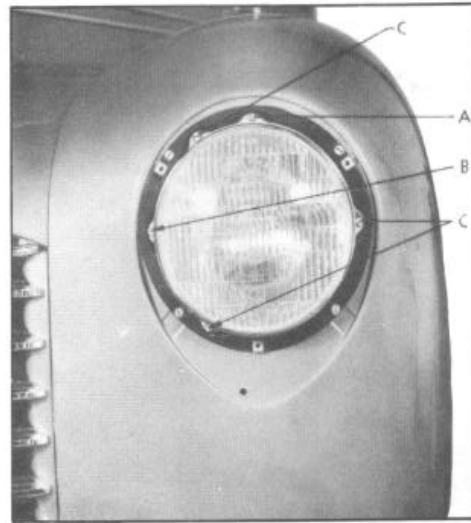
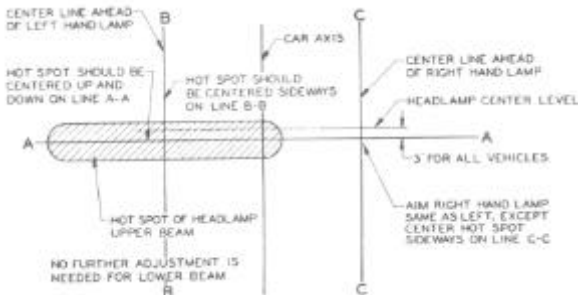

Figure 34--Headlamp Beam Adjustment
Figure 36--Headlamp Adjusting Chart
2. Loosen, but do not remove, the three screws (C), Figure 34, holding the retainer. (Do not disturb the aiming screws A and B at the top and left side of the unit.)
2. Loosen three screws (C), Figure 34, holding the retainer.
2. Draw a horizontal line on this surface at the level of a point 3" below the headlamp center, as shown in Figure 36. This line is 26-3/4" above the floor line. If, however, your state requires a loading allowance draw this horizontal line below the above line by whatever amount that is required in your state.
4. Draw vertical lines (B-B) and (C-C), Figure 36, on the screen to the right and left of the center line at a distance equal to one-half of the center to center distance (28 inches) between the two lamps
7. Independent adjustment of both horizontal and vertical aim is provided in "Sealed Beam" headlamps with the adjustment screw as shown at (A), Figure 34, and the horizontal adjustment screw at (B).
- The light beam is moved to the right or left by tightening or loosening this horizontal adjustment screw (B). The beam may be raised or lowered by turning the vertical adjustment screw (A).
8. Cover one lamp to obscure the beam of light and then adjust the beam from the other lamp so that the center of the zone of highest intensity falls on the intersection of the horizontal line (A-A), Figure 36, 3" below the headlamp center and the vertical line directly ahead of the lamp.